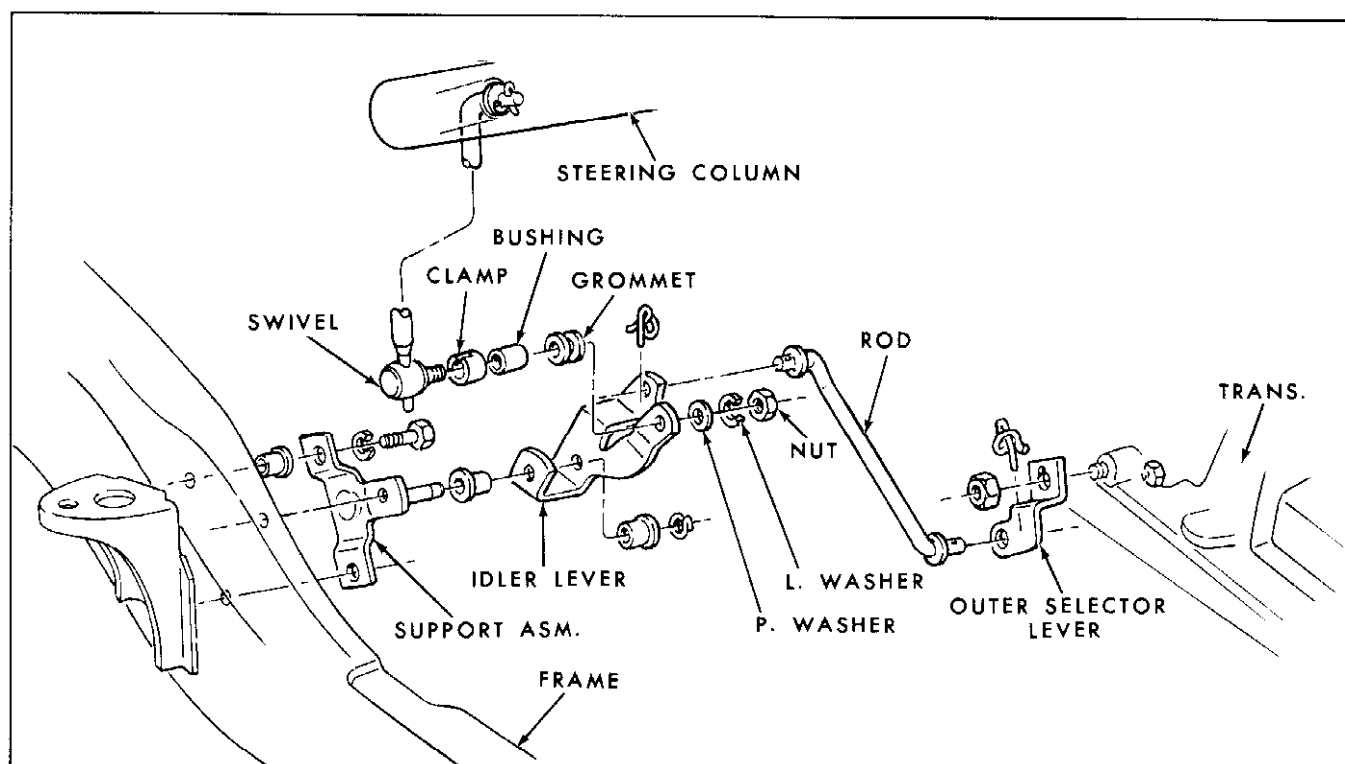

Fig. 7E-1 Lower Gearshift Controls - Column Shift
1. Loosen both swivel nuts (G and H) on lower control rod (Fig. 7E-2).